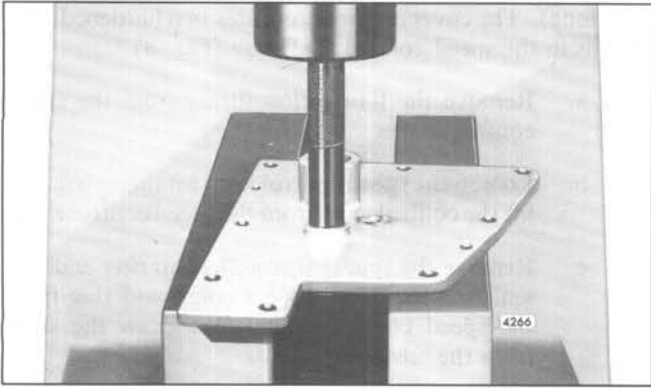

Fig. 10 – Removing Stop Lever Shaft Bushings from Governor Cover using Tool J 8985
- h. Remove the bushing or bearings from the stop lever shaft opening using remover J 8985 (Fig. 10).